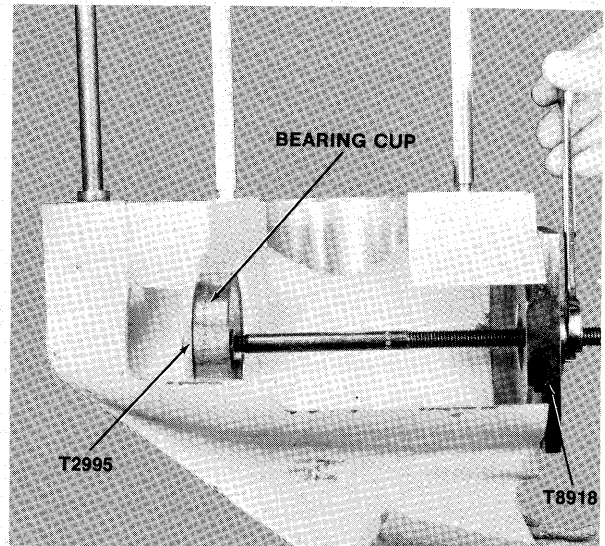

Figure 25—Removing Bearing Cup
- E. Remove bevel gear—front bearing cup using cup remover (Special Tool T2995) with bearing guide set (Special Tool T8918) as shown in figure 25.